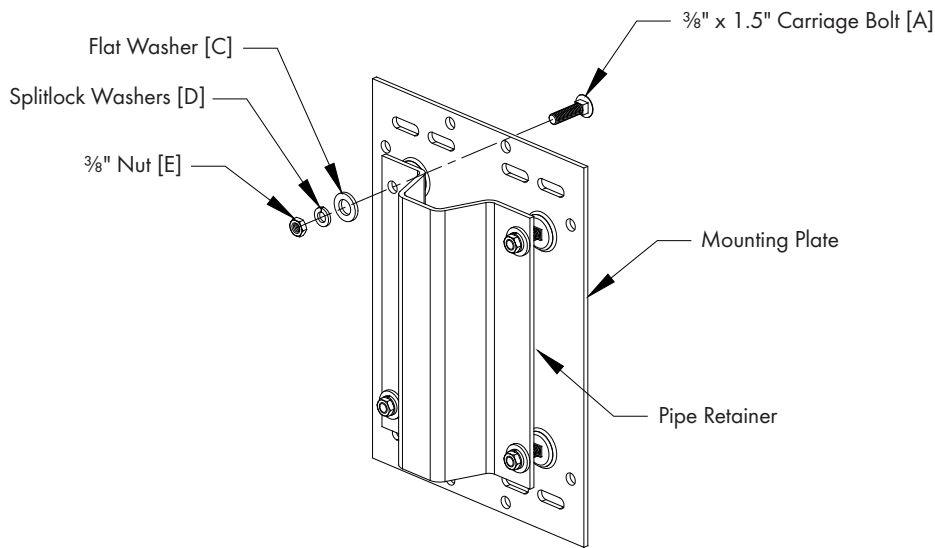

Figure 3
Attach Pipe Retainer to Mounting Plate using (4) Bolts [A], Washers [C], Splitlock Washers [D] and Nuts [E]. Thread nut on so it is flush with end of bolt. See Figure 3.